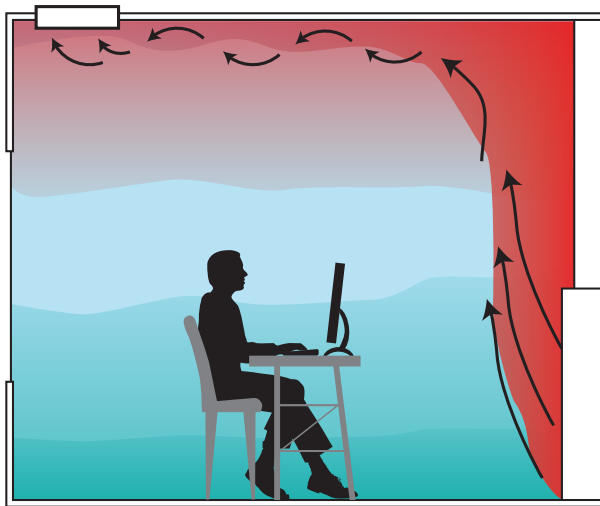

Fig. 4 - DV System heating short circuiting.
1. Requires separate heating system, typically for perimeter zones (warm supply air short circuits directly to the ceiling (see **Fig. 4**).